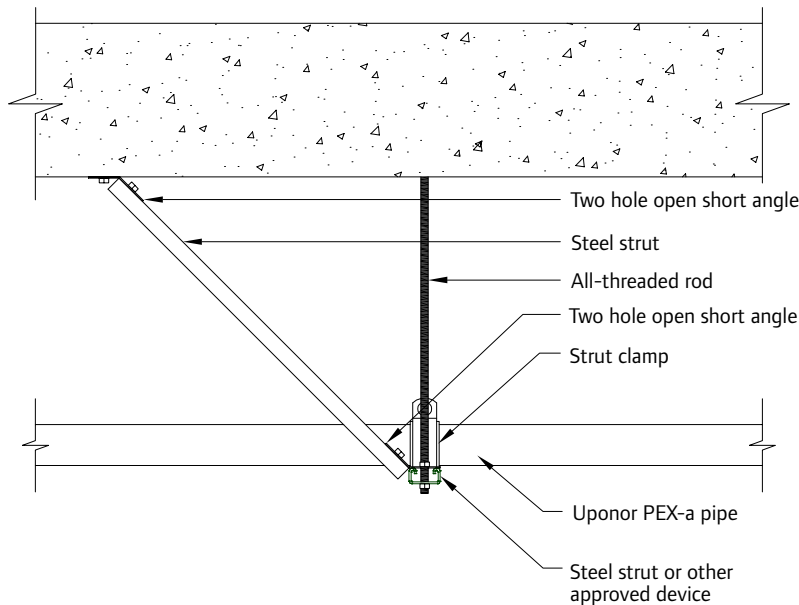

Figure 5-7: Fixed Anchor Point
- Constructed with materials that provide rigidity (see **Figure 5-7**)